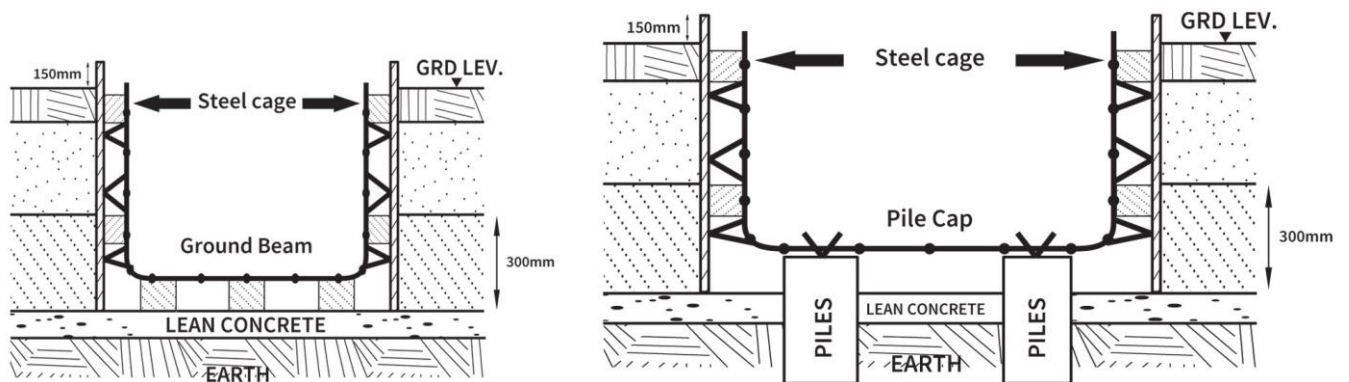

Figure 3.0
- v. Backfilling shall be done in every 300mm height layer and backfill earth is filled up to max 150mm from top of Pecaform to avoid potential contamination and open up of Pecaform during concreting as depicted in Figure 3.0 below:-